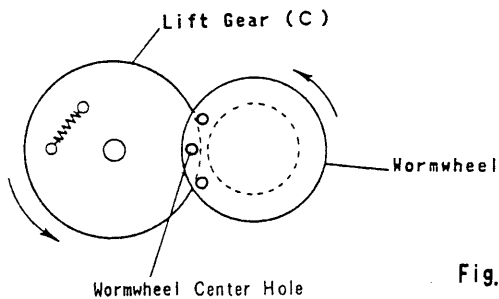

Fig. 2-17
Align the Lift Gear (C) Hole with Wormwheel Hole as illustrated. (Fig. 2-17)